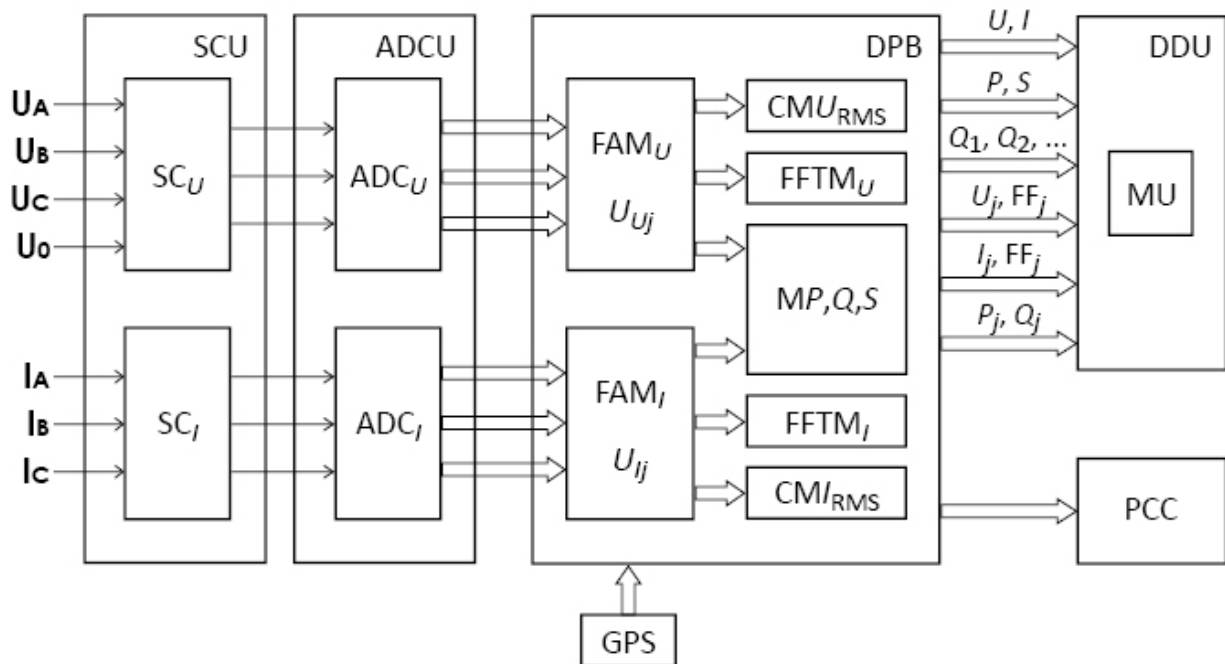

Fig 2.1 Block Diagram
2.5.1 Energotester's block diagram is shown in Fig. 2.1.